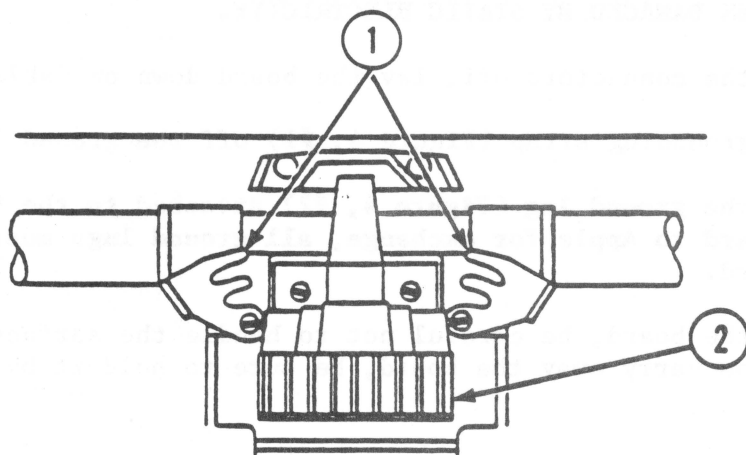

FIGURE 1
4. To free the dot head, slide out both dot head latches. (See Figure 1, #1.)
5. Pull up the dot head. (See Figure 1, #2.) If you have trouble getting it out, pull the paper roller shaft forward. Ease the dot head around the roller shaft.